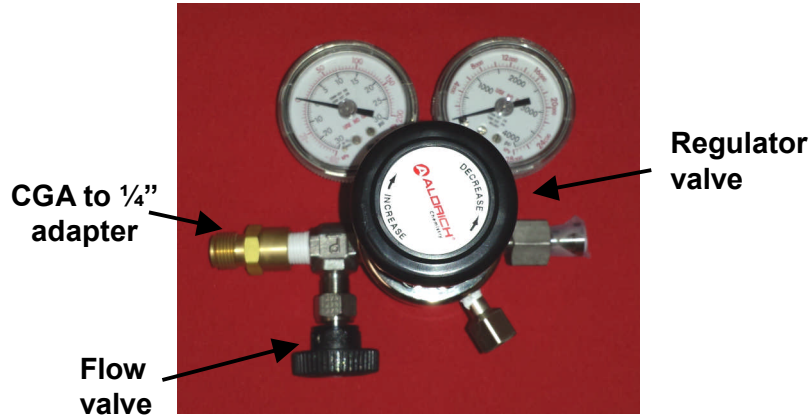

Figure 10.
2. Remove the plastic cap from the CGA 180 inlet (nut marked "180") of the CJ Tee Syringe Adapter, ensuring the PTFE washer remains in place. Connect to the other side of the CGA to 1/4" adapter. **Do Not** use PTFE tape. Tighten with a wrench (see Figure 10).